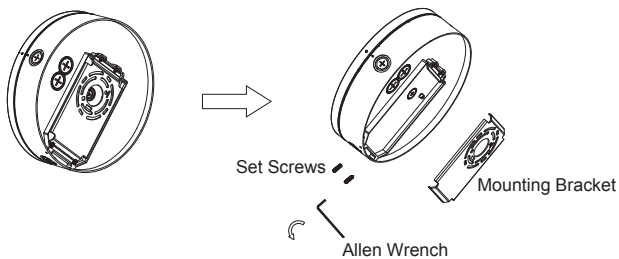

Fig.1
1. Use an Allen wrench to remove these two set screws(M5) and take off the mounting bracket. (Fig.1)